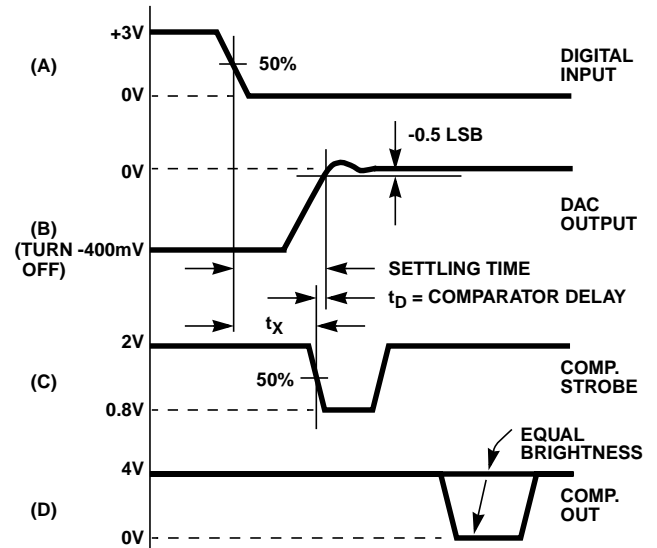

FIGURE 3B.
As shown in Figure 3B, settling time equals tx plus the comparator delay (tD = 15ns). To measure tx:
- Adjust the VLSB supply for 50% triggering at COMPARATOR OUT. This is indicated by traces of equal brightness on the oscilloscope display as shown in Figure 3B. Note DVM reading.
- Switch the LSB to Pulse (P).
- Measure tx from scope as shown in Figure 3B. Settling time equals tx + tD, i.e., tx + 15ns.